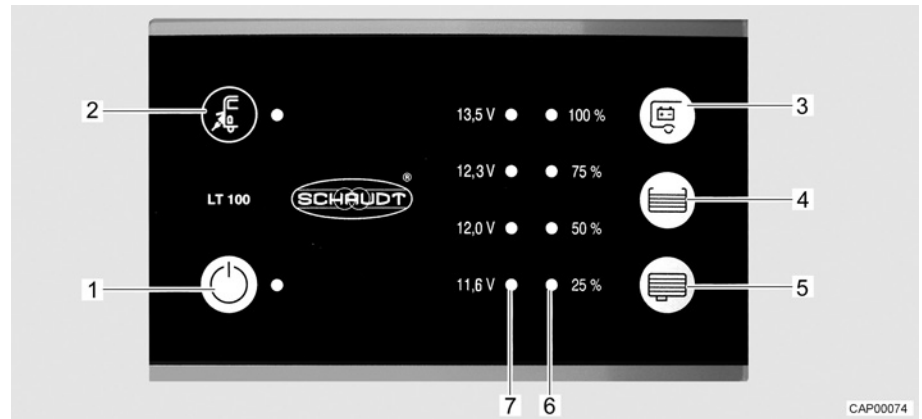

Fig. 72 Panel (LT 100)
The yellow LED at the mains connection symbol  (Fig. 72,2) is lit when the vehicle is connected to an external mains supply. In this case, the LED will also be lit when the panel is switched off.
The 12 V main switch (Fig. 72,1) switches the panel and the 12 V power supply of the living area on and off.
- Press switch "" (Fig. 72,1): The 12 V living area power supply is switched on. The LED lights up green.
- Press switch "" (Fig. 72,1) again: The 12 V living area power supply is switched off. The LED goes out.
The LED array (Fig. 72,7) displays the battery voltage of the living area battery as follows:
- Press "⏻" button (Fig. 72,3): The battery voltage of the living area battery is displayed.
The LED array (Fig. 72,6) displays the fill level of the fresh water tank or of the waste water tank.
- Press "  " button (Fig. 72,4): The fill level of the fresh water tank is displayed by lit LEDs.
- Press "  " button (Fig. 72,5): The fill level of the waste water tank is displayed by lit LEDs.